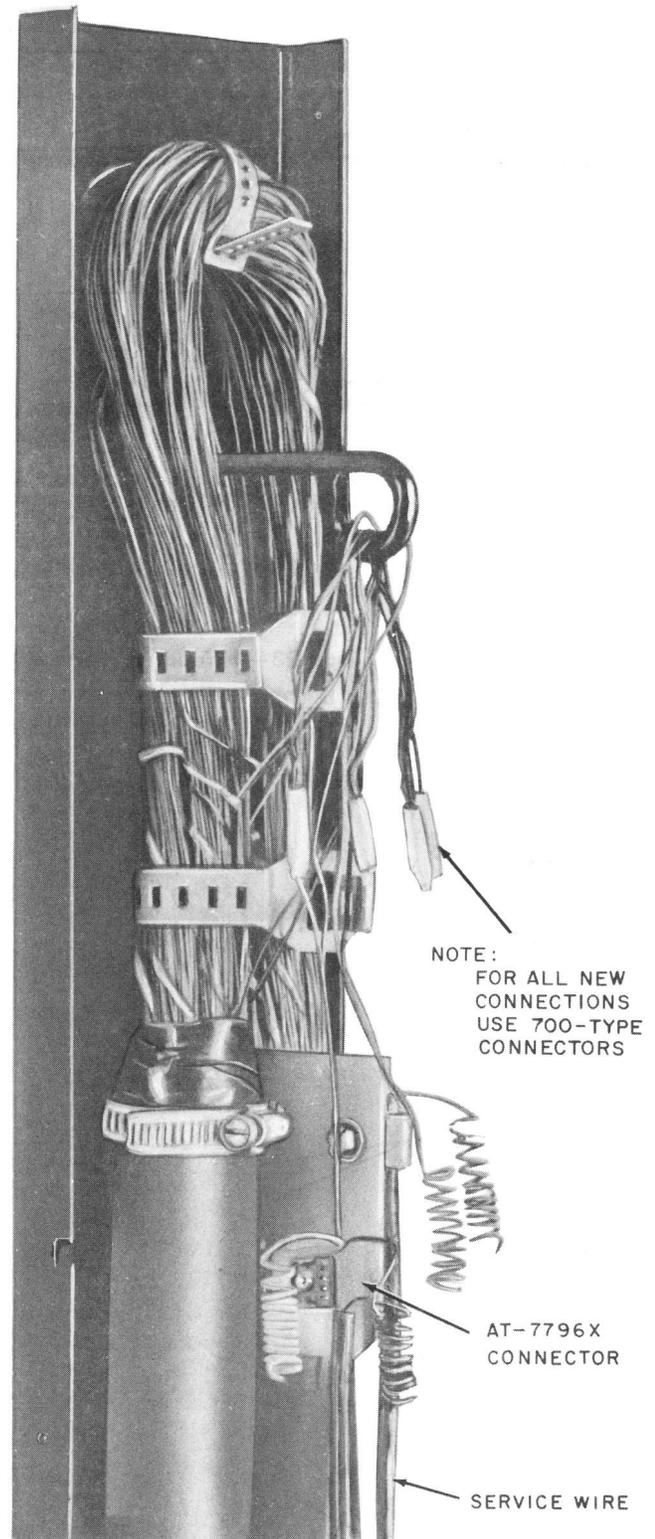

Fig. 22—Service Wire Installed—UP200 Cable Closure
5.15 Terminate service wire as shown in Fig. 22.